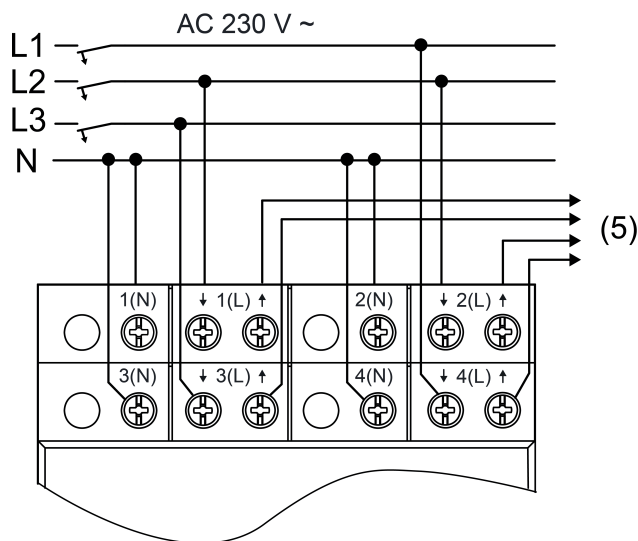

Figure 3: Connection example, energy sensor
(5) To the monitored consumers
- Connect the circuits to be monitored according to the energy sensor connection example (figure 3). Connect the energy sensor behind the circuit breakers.